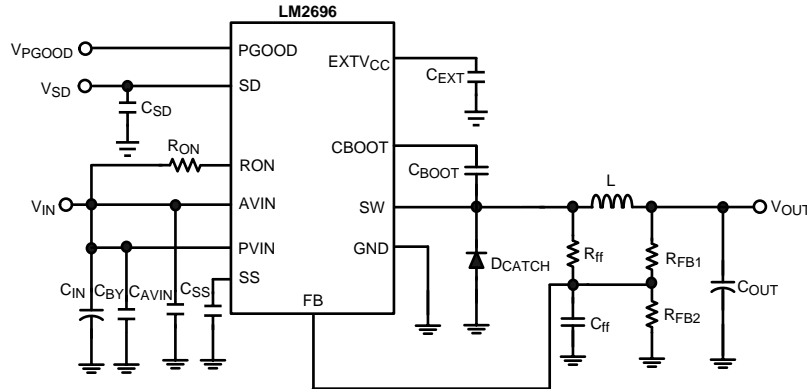

Figure 28. 12V-to 3.3V Voltage Applications Circuit
(1) (Figure 28: Medium Voltage Board, 12V-to-3.3V conversion, f_{sw} = 300 kHz)